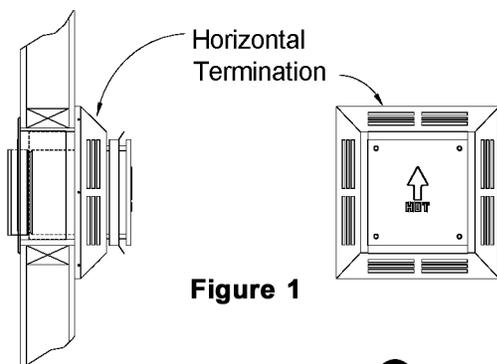

Figure 1
2. Install the Horizontal Termination (DHCS) to the exterior wall using 4 all-purpose screws through the holes located at each corner of the termination. Make sure the arrow (embossed on the front of the termination) is pointing up (see Figure 1). If the house has vinyl siding, a vinyl siding standoff